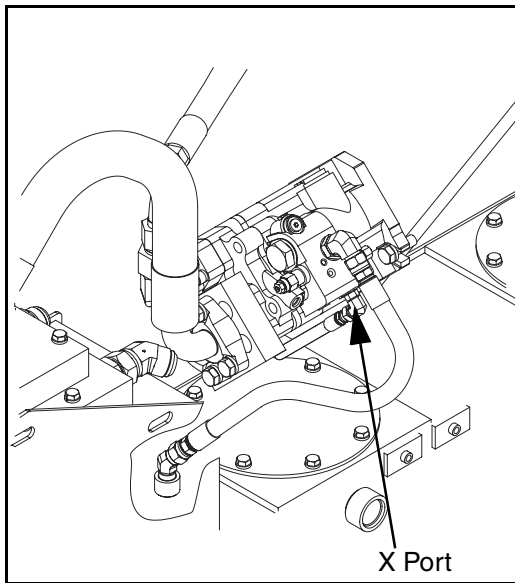

Figure 39 X Port - Tractor Generator Pump
- 2) Remove load sensor line from X port on pump. (Figure 39).